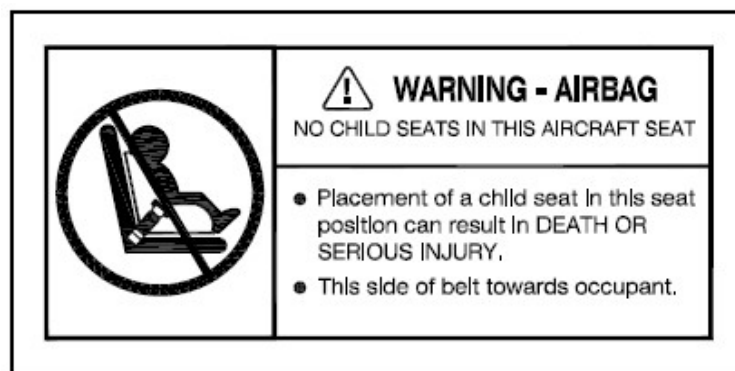

Figure 5. Child Seat Warning Label
- (a) Child seats are prohibited (Figure 5).